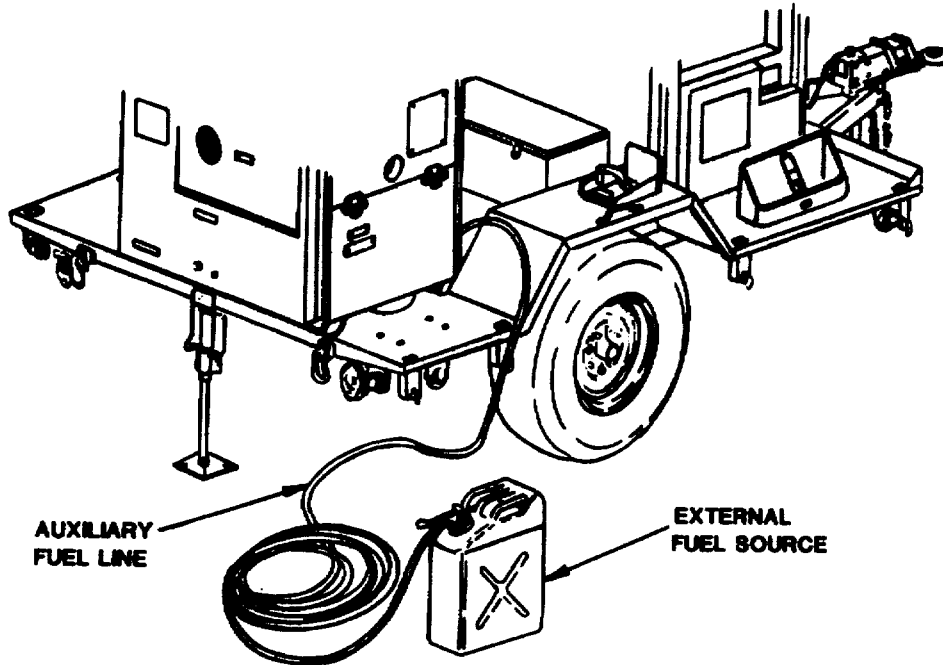

Figure 4-2. External Fuel Line Connection.
- (1) Underground water system. Ground power plants to one of the accessible pipes in an underground water system. Make certain underground pipe is made of metal and there is no insulation, such as a water meter, between ground wire and earth.
- (2) Ground rod. Drive ground rod a minimum of 8 feet into earth. A ground rod must have a minimum diameter of 5/8-inch if solid, or 3/4-inch if pipe.
c. **External Fuel Line Connection.** (See Figure 4-2). The power plant generator sets can be fueled from an external source such as a 5-gallon fuel can or 55-gallon drum. This eliminates the need for frequent refilling of each generator's fuel tank during long intervals of operation.
- (1) Remove fuel can adapter and fuel pickup tube from storage locations on power plants and assemble by threading pickup tube into adapter.
- (2) Thread one end of auxiliary fuel line onto fuel can adapter fitting and tighten.
- (3) Connect free end of auxiliary fuel line to AUXILIARY FUEL CONNECTION. This connection is located directly to the left of the fuel drain on the left-hand side of generator set.
- (4) Insert fuel can adapter in external fuel source and secure by pressing down on lever.
- (5) Set MASTER SWITCH on control panel to RUN AUX FUEL position.